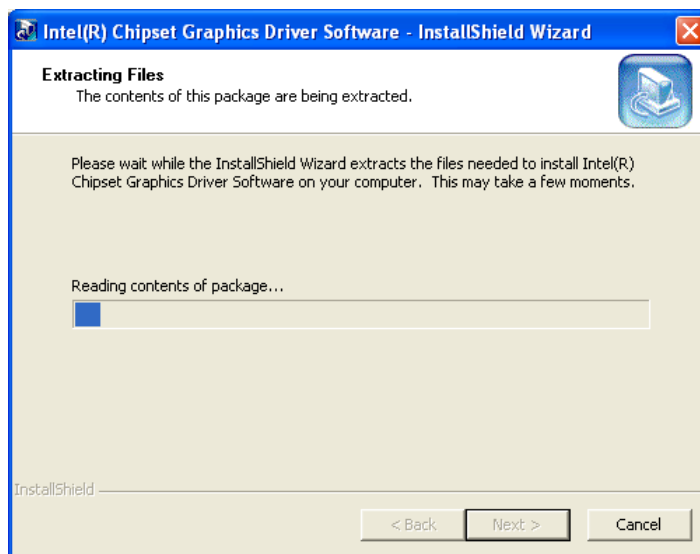

Figure 6-8: VGA Driver Setup Files Extracted
Step 5: The installation files are extracted. See Figure 6-8.